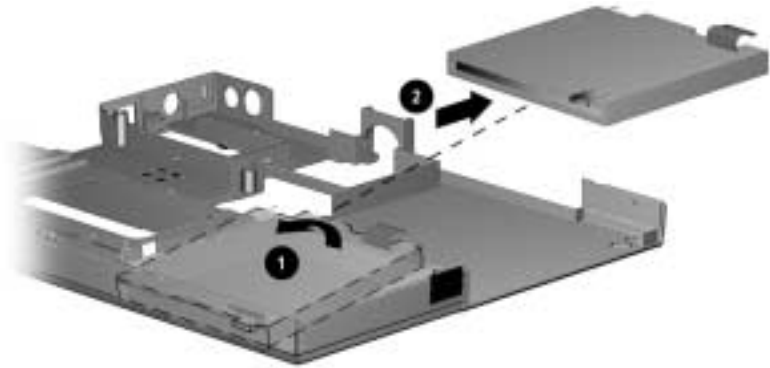

Figure 5-34. *Removing the Diskette Drive*
2. Lift the back edge of the diskette drive **1** and swing it up and toward the front of the base assembly **2** (Figure 5-34).